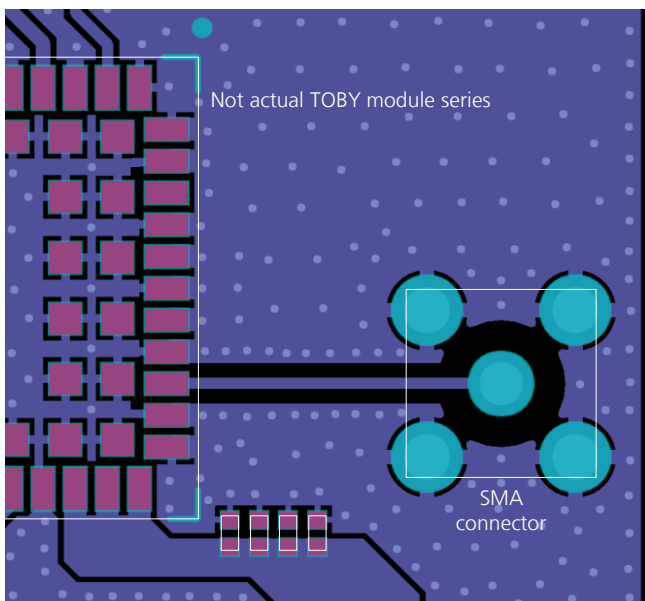

Figure 23: Suggested circuit and layout for antenna RF circuit on application board, if antenna detection is not required
- Add GND stitching vias around transmission line, as described in Figure 23,
- Ensure solid metal connection of the adjacent metal layer on the PCB stack-up to main ground layer, providing enough on the adjacent metal layer, as described in Figure 23,
An example of proper RF circuit design is reported in the Figure 23. In this case, the **ANT** pin is directly connected to an SMA connector by means of a proper 50  $\Omega$  transmission line, designed with proper layout.
- SMA Pin-Through-Hole connectors require GND keep-out (i.e. clearance, a void area) on all the layers around the central pin up to annular pads of the four GND posts, as shown in Figure 23